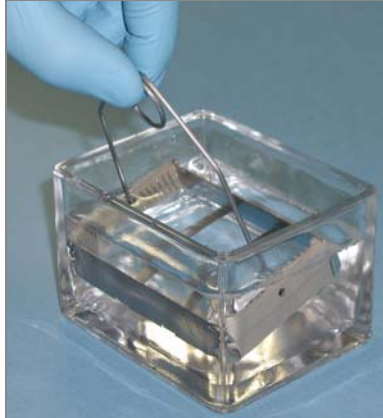

Figure 144 Wash Rack in Wash Dish Containing PB1
2. Attach the wire handle to the rack and submerge the wash rack in the first wash dish containing 200 ml PB1 (Figure 144).